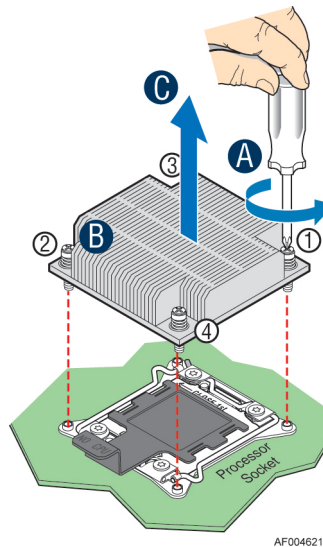

Figure 39. Removing Processor Heatsink
1. Remove the processor heatsink, see Figure 39